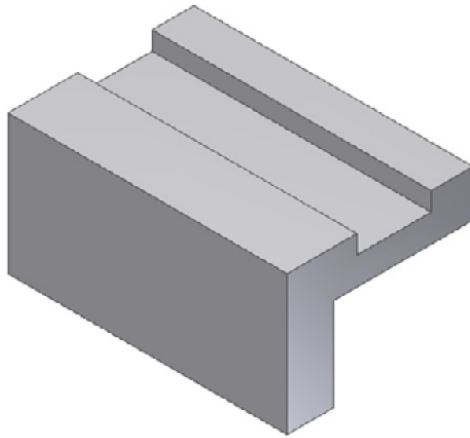

Figure 5-98 Base feature created
7. Extrude the sketch to a distance of 60 mm using the **Symmetric** option. The base feature is created, as shown in Figure 5-98.